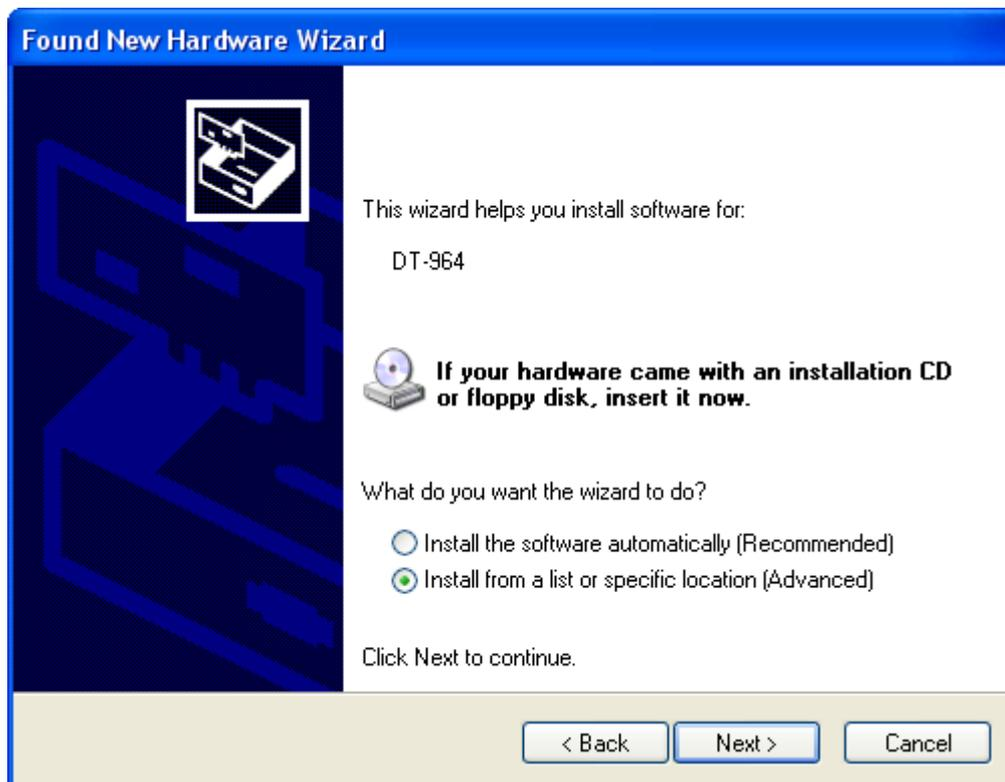

Fig.5 Selecting a type of installation
- Select **Install from a list of specific location** and click  (Fig.5)